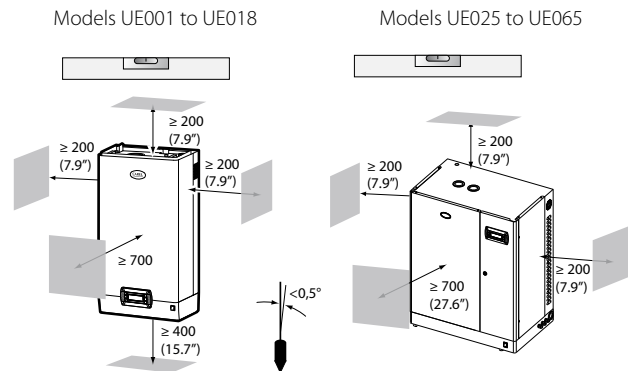

Fig. 1.c
- make sure the humidifier is level, allowing the minimum clearances (see Fig. 1.d) for maintenance operations.
Fit the humidifier on the wall using the support bracket and the screw kit supplied (for the dimensions in mm see Fig. 1.d).